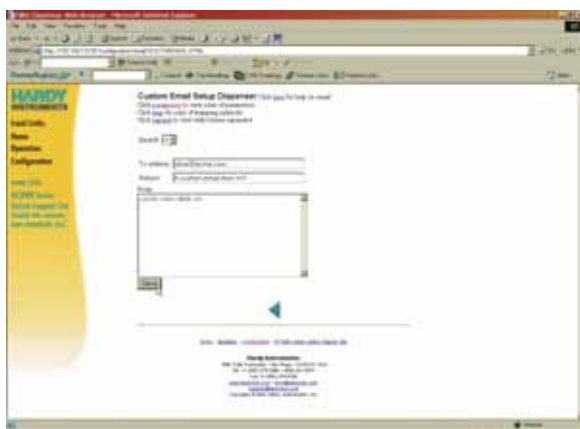

FIG. 306: CUSTOM E-MAIL WEB PAGE
- Step 1. Click on the right arrow in the Standard E-Mail Web page, the Custom E-Mail page appears. (See Fig. 306)